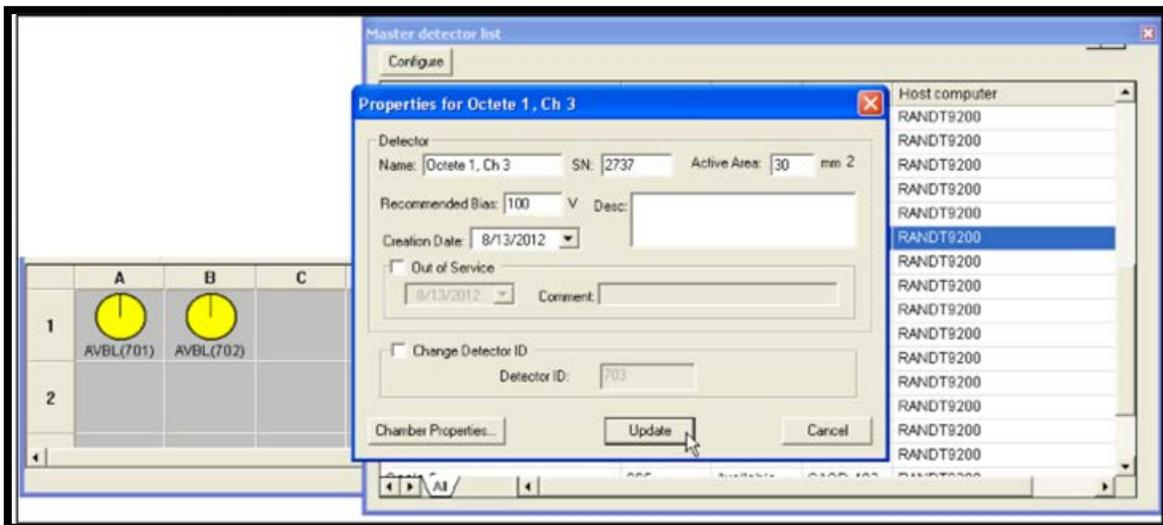

Figure 150. Detector Properties Dialog
- 3) The detector's Properties dialog will open (Figure 150). *Users must at minimum enter a **Detector Name** for QA tracking purposes.* It is suggested to use an intuitive name that specifies the MCB and alpha chamber. The remaining fields are not mandatory; however, they provide useful hardware documentation (such as the **SN** field, which captures the detector serial number), and the information is saved in the AlphaVision database.